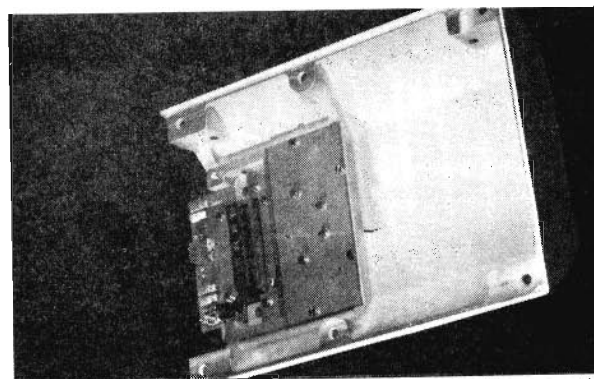

Fig.2 , couple-plate with BA1 board, the plastic cover is already removed.
- (1) execute paragraph 3.1.
- (2) remove the plastic cover infront of the PCB (2 screws)
- (3) remove the PCB from the couple-plate (4 screws) see Fig.2 page 26
- (4) disconnect BA1:X1 from the defective PCB and connect the new PCB
- (5) mount the new PCB to the couple-plate and the plastic cover to the PCB
- (6) execute para. 3.5.